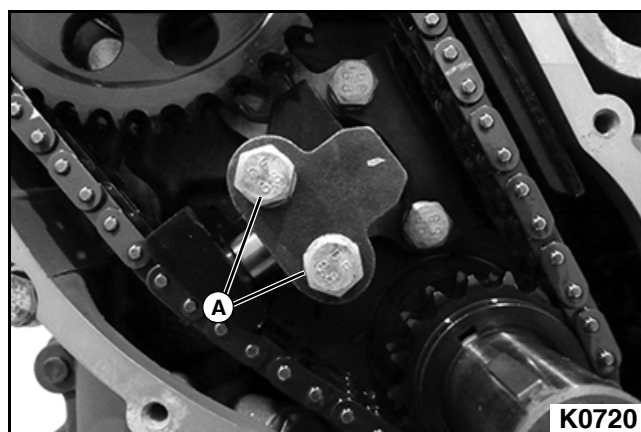

Figure 3-158
1. Remove two bolts (A) securing timing chain tensioner to cylinder block and remove tensioner. **See Figure 3-158.**